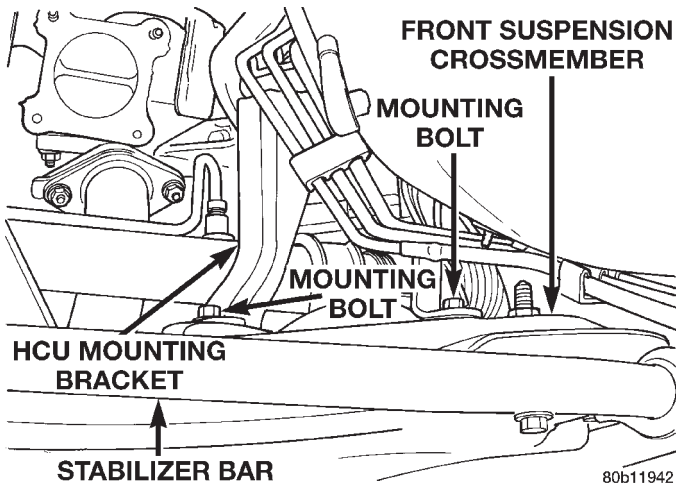

Fig. 30 HCU Mounting Bracket Rear Bolts
(12) Remove the 2 bolts (Fig. 30) attaching the back legs of the HCU mounting bracket to the front suspension crossmember.
(5) Install the 2 bolts (Fig. 30) attaching the back legs of the HCU mounting bracket to the front suspension crossmember.